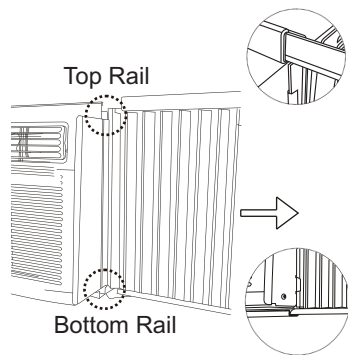

Fig.3
C. Once the panel has been installed on the side of the cabinet, make sure it sits securely inside the frame channel by making slight adjustments. Slide the top and bottom ends of the frame into the top and bottom rails of the cabinet. Fig .3.